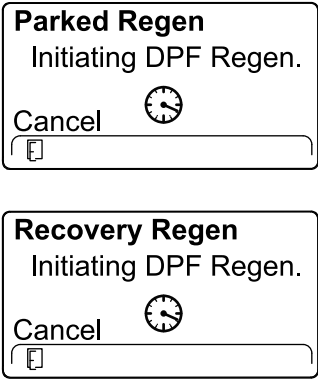

Figure 68
- The InfoCenter displays the INITIATING DPF REGEN message (Figure 68).